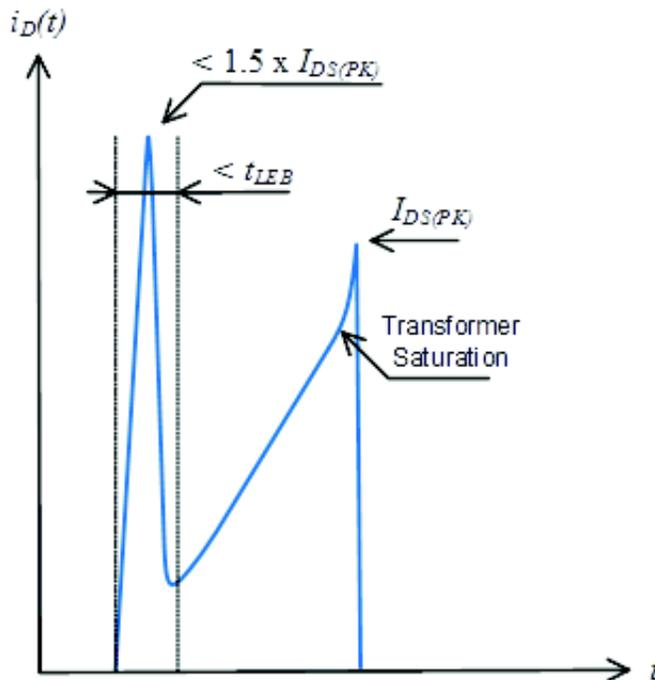

Figure 4. Spike Limits
3. Maximum drain current I_{DS(PK)} is obtained when the transformer saturates. It should not be mixed with short pulses that can be seen at turn on. Figure 4 below provides spike limits the device can tolerate.